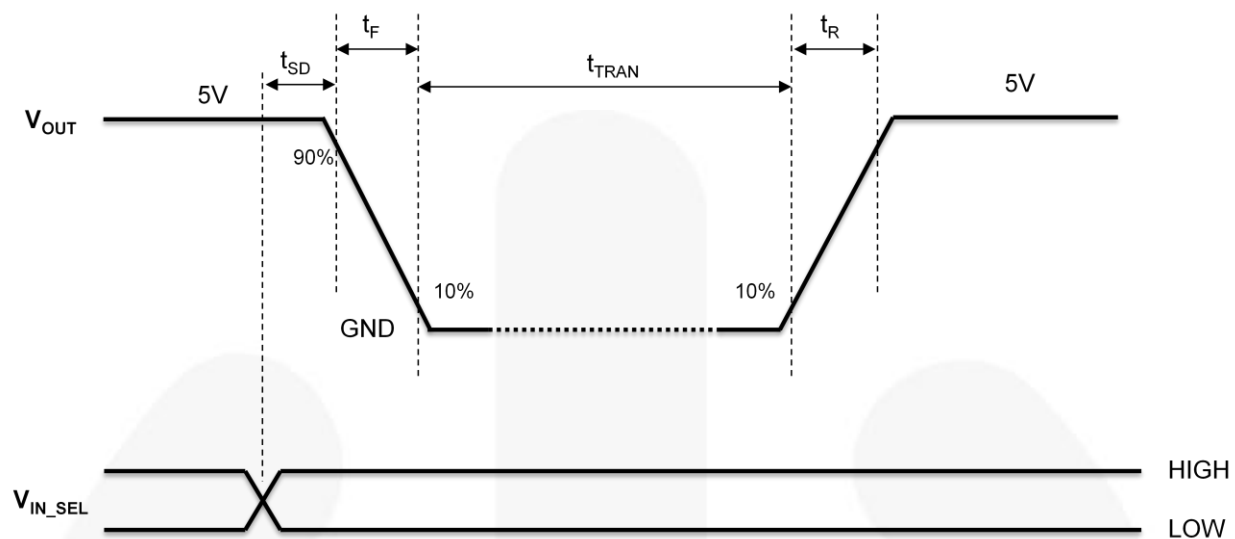

Figure 6. Transition Delay ($V_{IN}=V_{BUS}=5\text{ V}$)
7. $t_{SD}/t_{TRAN}/t_R/t_F$ are defined in Figure 6.